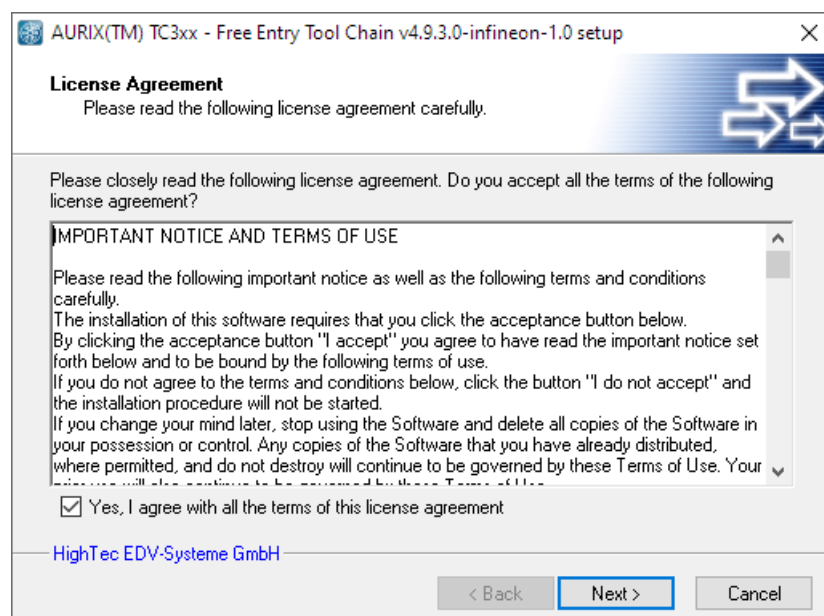

Figure 2 License Agreement dialog
2. Select **Next** button. The License Agreement dialog appears. Please read carefully and agree or cancel the installation with Cancel button (Figure 2).